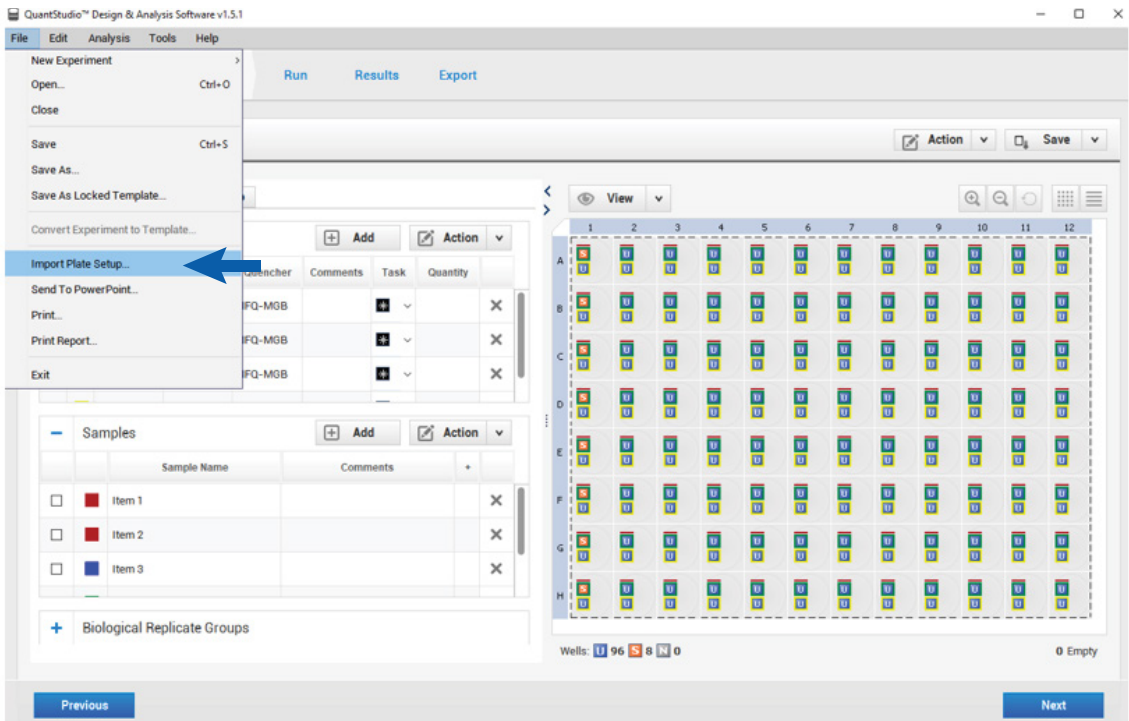

Figure 50. The Import Plate Setup option in the File menu.
2. Alternatively, you can use a plate setup import file by selecting **File>Import Plate Setup** (Figure 50). Browse to the location where your plate .txt file is stored. Select the file and select the **Apply** button. Select **Yes** and continue with the import when prompted. The software will display an "Import Successful" box. Select **OK** to move forward with starting the run. See Section 9.H for instructions on creating a plate setup import file with the PowerQuant® Analysis Software.